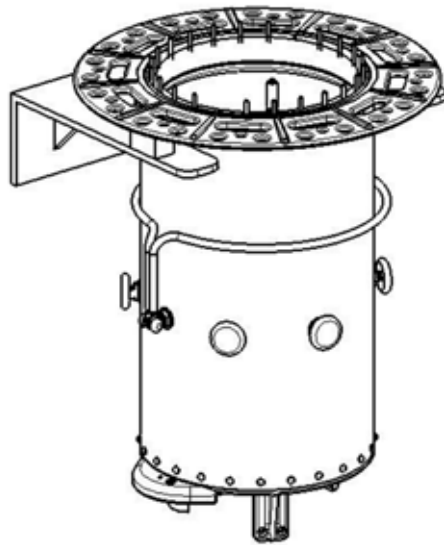

Figure 25 Putting tap-changer onto the support frame
- 2) Use the mounting hole on the support flange to temporarily fix the tap-changer on the frame. If necessary, put a temporary adjusting block between the temporary support frame and the support flange. Adjust the installation height of the tap-changer to the final installation position. The adjusting block must be removed before installation of the bell-type transformer tank cover. (Figure 25)